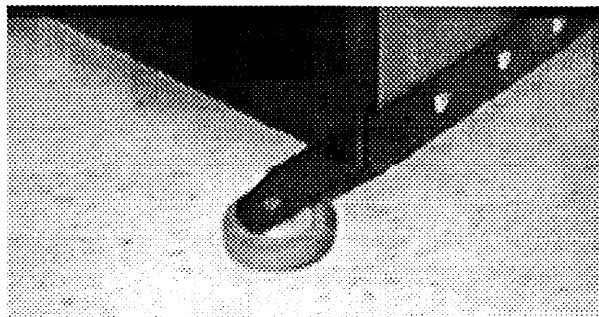

FIG. 1.
1. Attach (2) wall rollers, rollers and hardware are packaged with the battery hardware pack.
2. Use screw and nut to mount rollers as shown. (Figure 1)